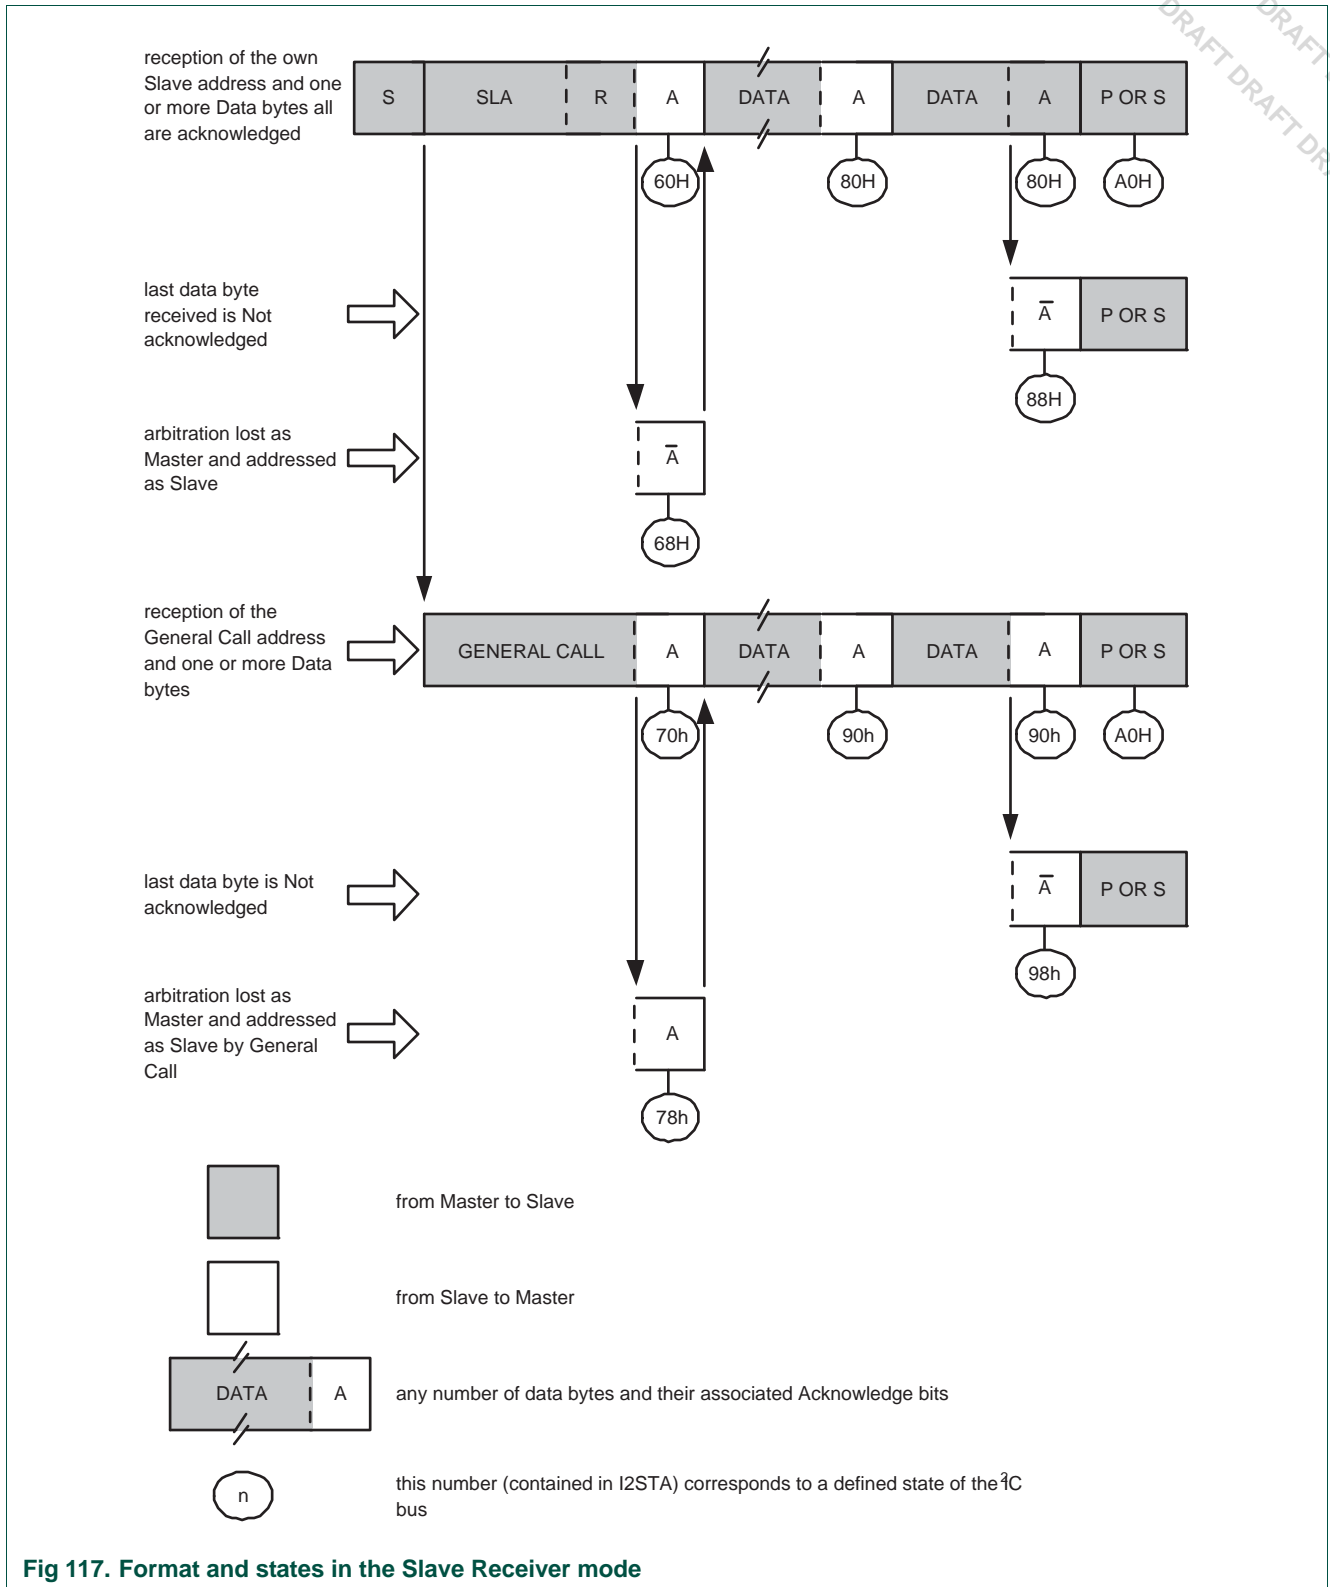
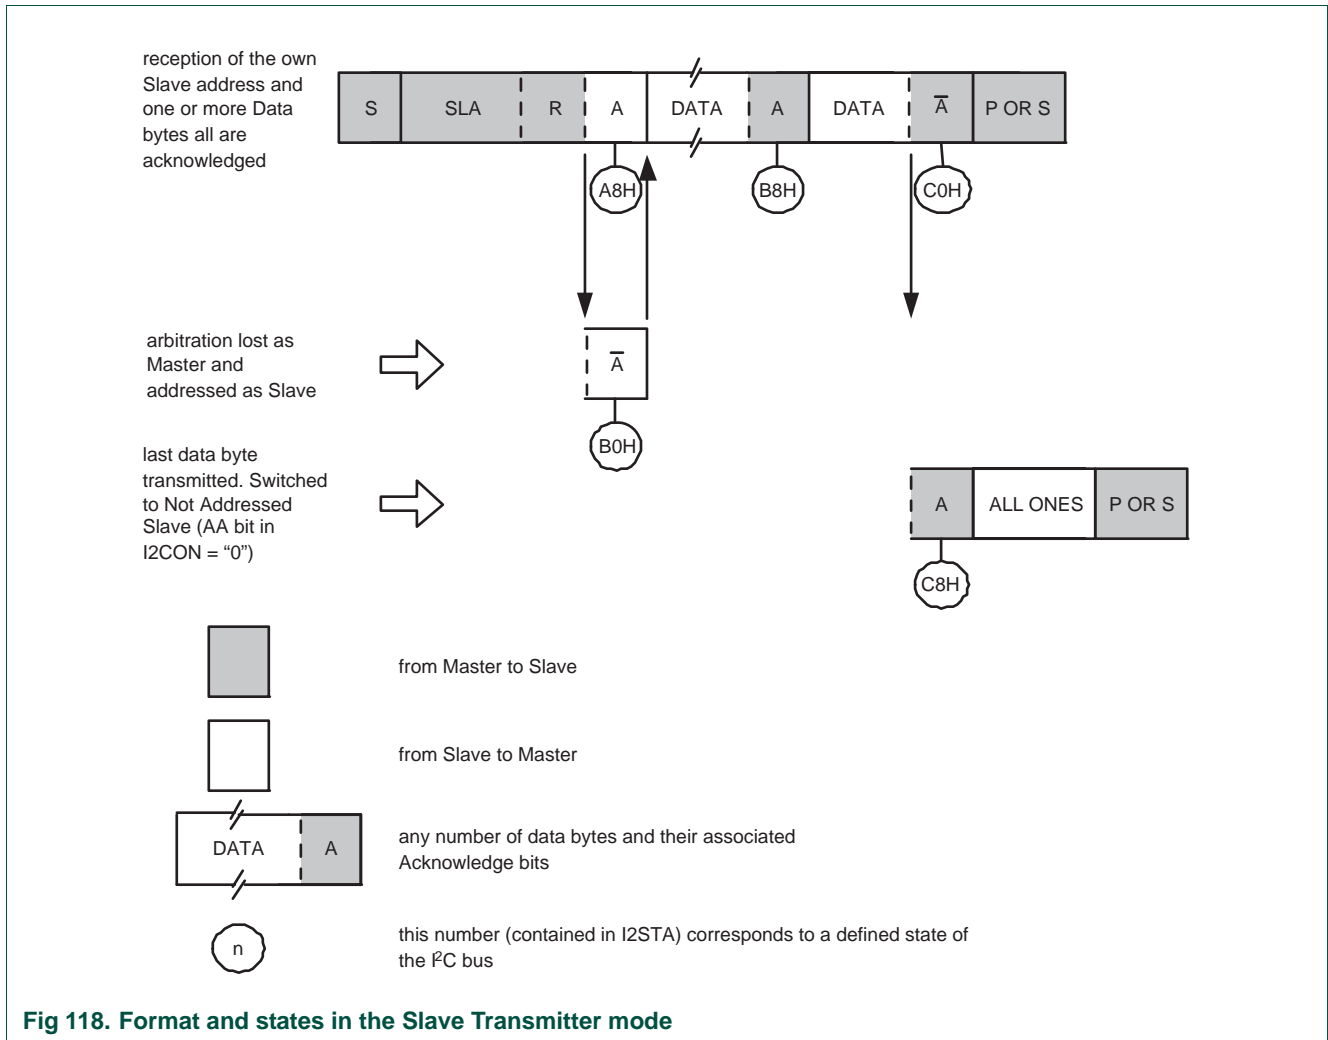

Fig 117. Format and states in the Slave Receiver mode
Fig 118. Format and states in the Slave Transmitter mode
Data transfers in each mode of operation are shown in Figure 115, Figure 116, Figure 117, Figure 118, and Figure 119. Table 506 lists abbreviations used in these figures when describing the I2C operating modes.
In the slave receiver mode, a number of data bytes are received from a master transmitter (see Figure 117). To initiate the slave receiver mode, I2CON register, the I2ADR registers, and the I2MASK registers must be configured.
In the slave transmitter mode, a number of data bytes are transmitted to a master receiver (see Figure 118). Data transfer is initialized as in the slave receiver mode. When I2ADR and I2CON have been initialized, the I2C block waits until it is addressed by its own slave address followed by the data direction bit which must be “1” (R) for the I2C block to operate in the slave transmitter mode. After its own slave address and the R bit have been received, the serial interrupt flag (SI) is set and a valid status code can be read from I2STAT. This status code is used to vector to a state service routine, and the appropriate action to be taken for each of these status codes is detailed in Table 512. The slave transmitter mode may also be entered if arbitration is lost while the I2C block is in the master mode (see state 0xB0).